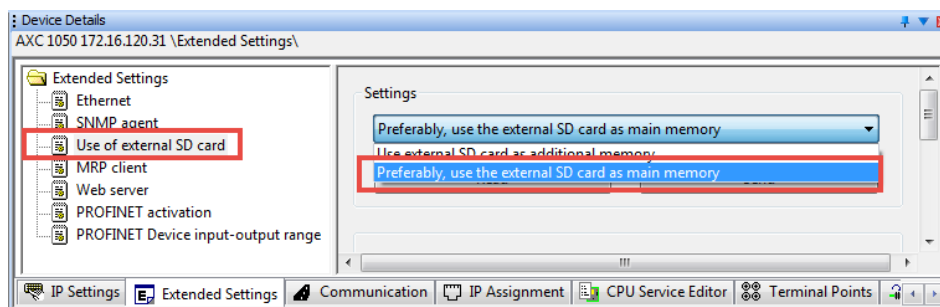

Figure 6-34 Setting the SD card as the main memory
Figure 6-34 shows the setting in PC Worx for using the SD card as the main memory.
- Click on the "Send" button (hidden by the drop-down list in Figure 6-34) to send the setting to the controller.